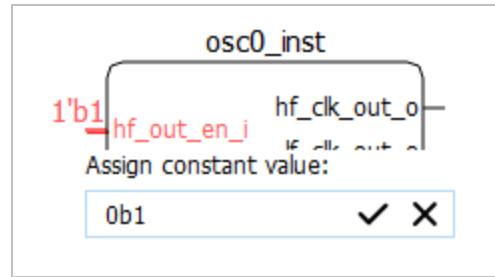

Figure 2.98. Dialog Box of Assigning Constant Value to an Input Pin
2. A small dialog box appears (Figure 2.98). Enter the desired value. To erase the value and start over, click X. For all buses (more than one pin), the format is hexadecimal. Make sure the value fits the number of pins in the bus. For example, a 3-pin bus can accept 0-7, but not 8.